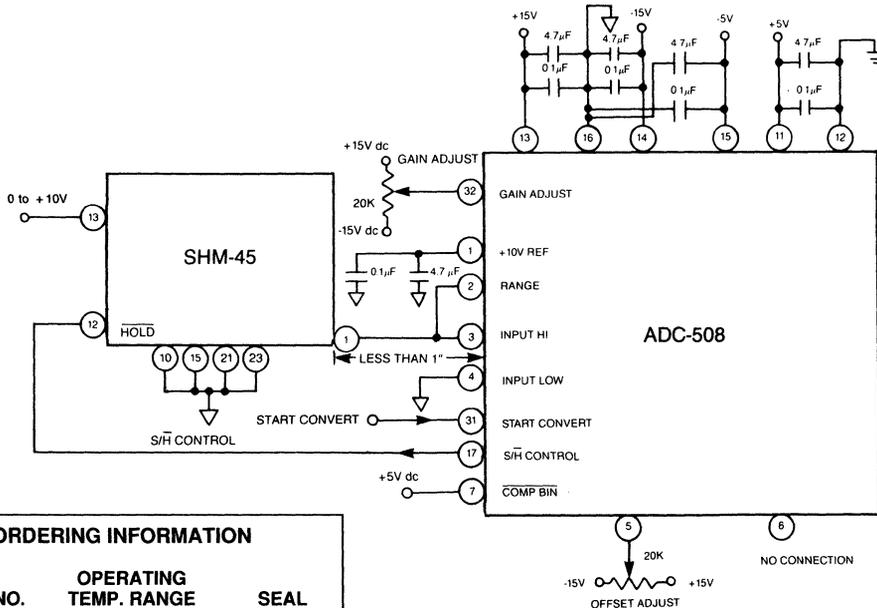

Figure 3. ADC-SHM Connection Diagram
9. Requirements for  $\pm 2.5$ V inputs can be satisfied using DATEL's AM-1435 amplifier in front of the SHM-45/ADC-508 configuration, shown in Figure 3, at the appropriate gain. The SHM-45's gain of 2 mode allows 0 to +5V or  $\pm 5$ V input ranges.
1. Connect the converter per Figure 3 and Table 2 for the appropriate full-scale range (FSR). Apply a pulse of 50 nanoseconds minimum to the START CONVERT input (pin 31) at a rate of 500 KHz. This rate chosen to reduce flicker if LED's are used on the outputs for calibration purposes.